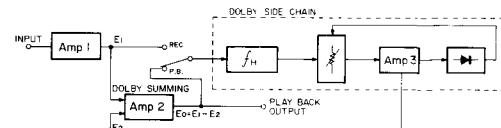
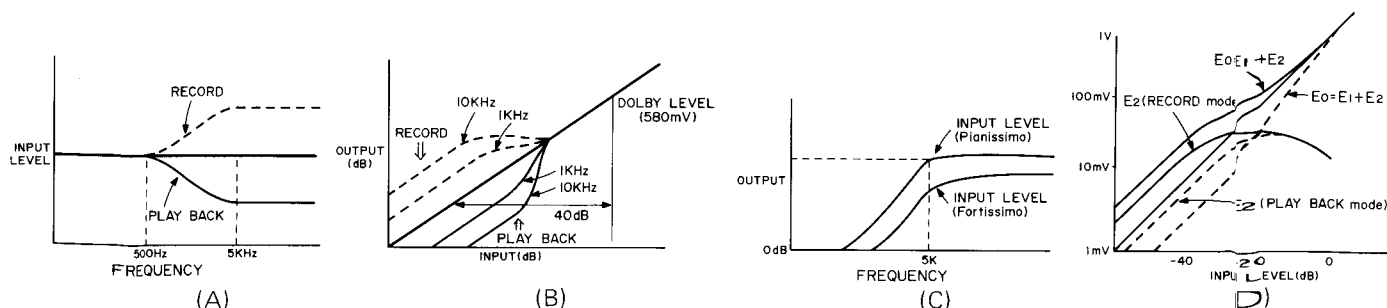

Figure 32-2
Figure 32-4
- As shown in Fig. 32-4-A, the Dolby NR system is to put its effect for only the range of more than 500 Hz but not for all the range of other frequencies.
- (2) The high-pass filter is to allow the signal of more than 500 Hz to be passed therein to be transferred to the succeeding circuits.
- (3) Passing through the high-pass filter, the signal is applied to the attenuator and then to the FET gate: this attenuator is controlled by the signal which has been amplified and rectified by the amplifier 3 and therefore, there develops more amount of attenuation as the input signal (voltage control signal) is increased in its intensity.
- (4) Combination of the filter, attenuator, amplifier 3 and rectifier circuit is called a Dolby-side chain (shown in Fig. 32-4-C).
- (5) The output signal of the Dolby side chain is applied to the input circuit of the amplifier 2 where it is combined with that of the amplifier 1.
- (6) Input to and output of the amplifier 2 are made reverse to each other in their phase: this is achieved by so-called Dolby summing circuit.
- In the case of playback mode (Refer to Figure 32-2) There develops the signal having a characteristic reverse to that in the case of record mode.